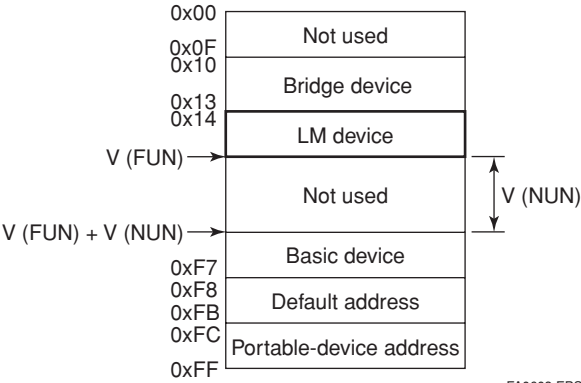

Figure A7.3 Node Address Ranges
- (3) In the LAS settings of the digitalYEWFO, set the values of V(FUN) and V(NUN) so that they include the node addresses of all nodes within the same segment. (See also Figure A7.3.)